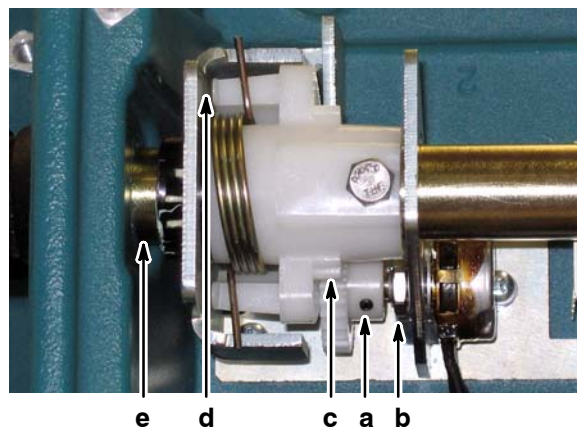

Fig. 18
13. Perform the following checklist on all that apply (Figure 18):